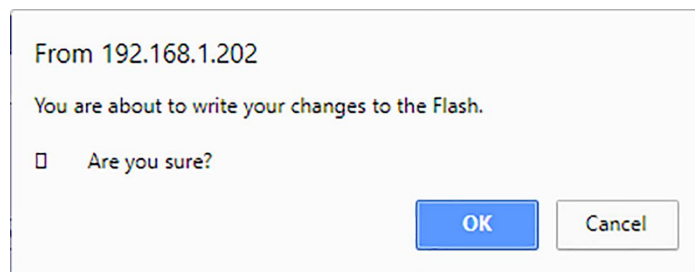

Figure 5-9 - Confirm Save Dialog
2. Click **Apply**. The following dialog appears (see Figure 5-9):